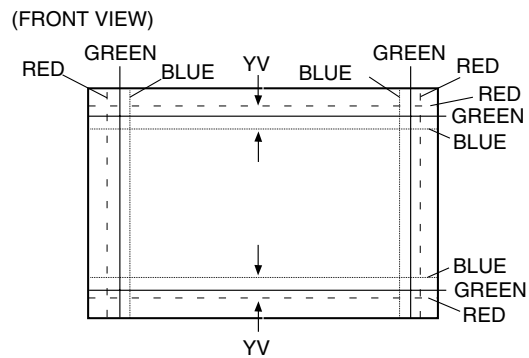

Fig. 9
2. Using the Y_v VR on the deflection yoke, match the Y_v . (Fig. 9)